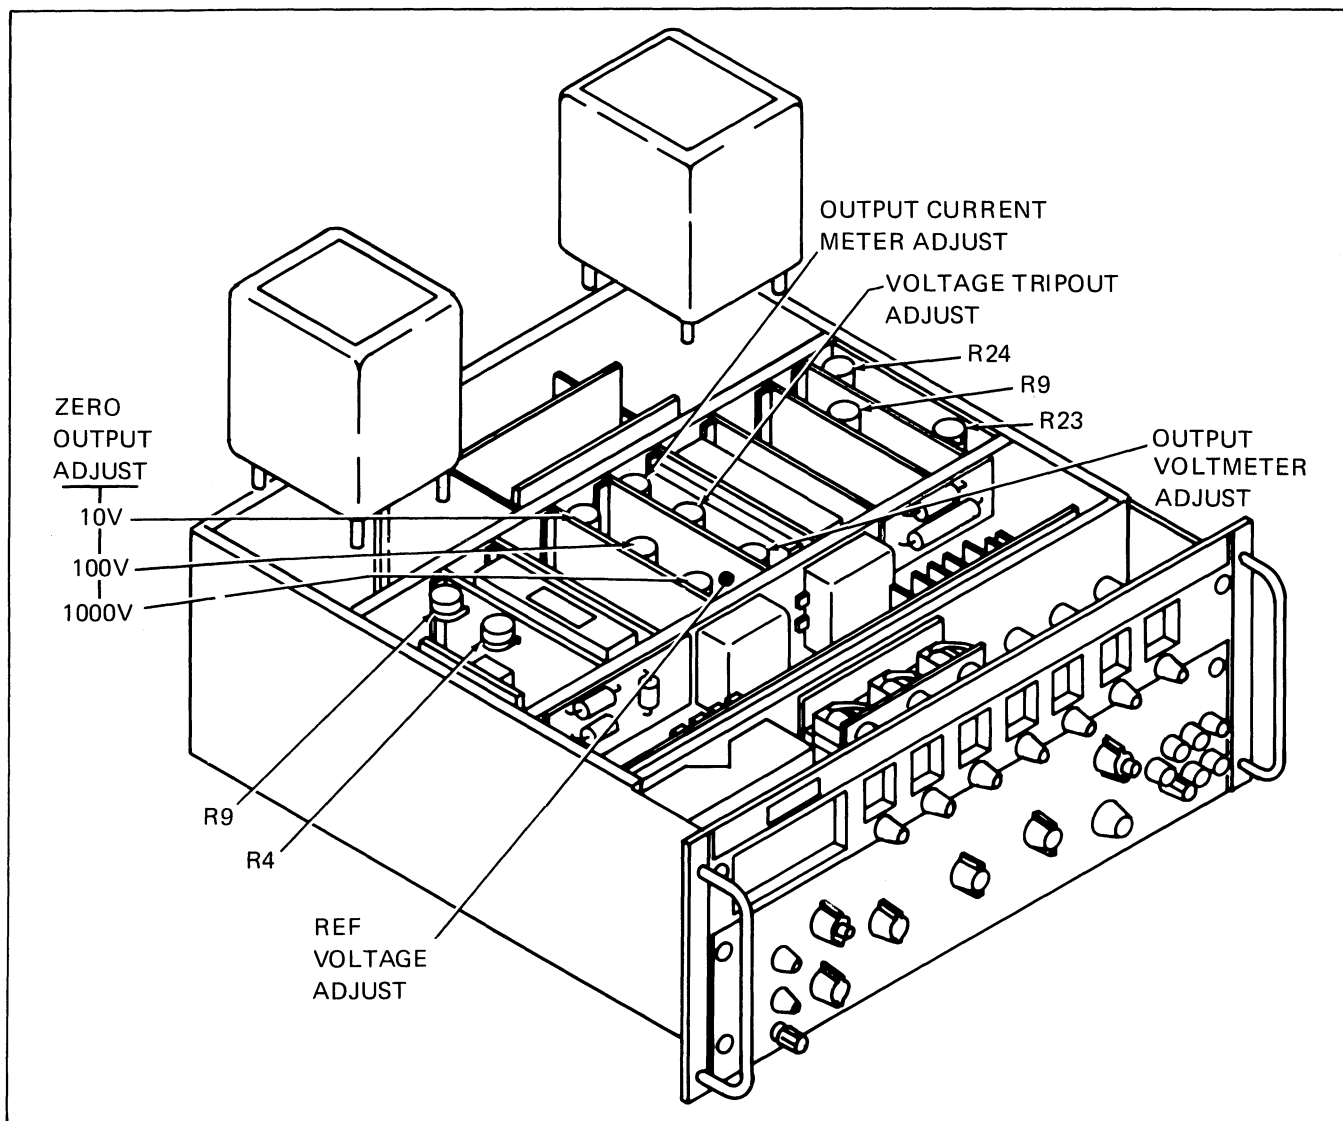

Figure 4-8. Location of Adjustments
3. Refer to Figure 4-8, and adjust R4 until the period of the squarewave is 11.9 milliseconds.
3. Refer to Figure 4-8, and adjust A6A1R9 for a full scale meter deflection $(1.0) \pm 1/2$ a small division.
6. Referring the Figure 4-8, adjust A5A5R9 until the Model 895A indicates 25 volts, ± 10 millivolts.
3. Referring the Figure 4-8, adjust R23 for a 60 milliampere indication on the external meter.
4. Rotate the CURRENT LIMIT control maximum counter-clockwise. Referring the Figure 4-8, adjust R24 for a 0.5 milliampere indication on the external meter.